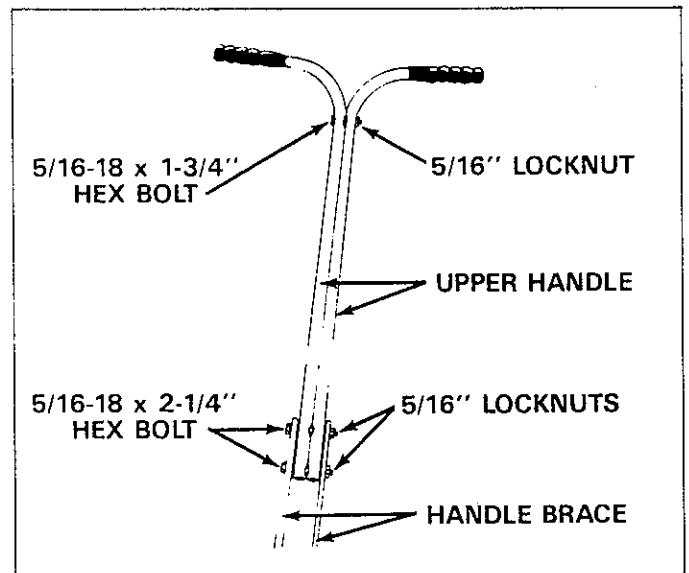

FIGURE 4
4. Attach the two upper handles to the handle braces with two bolts 5/16-18 x 2-1/4" long. Hand tighten the nut. See figure 4.